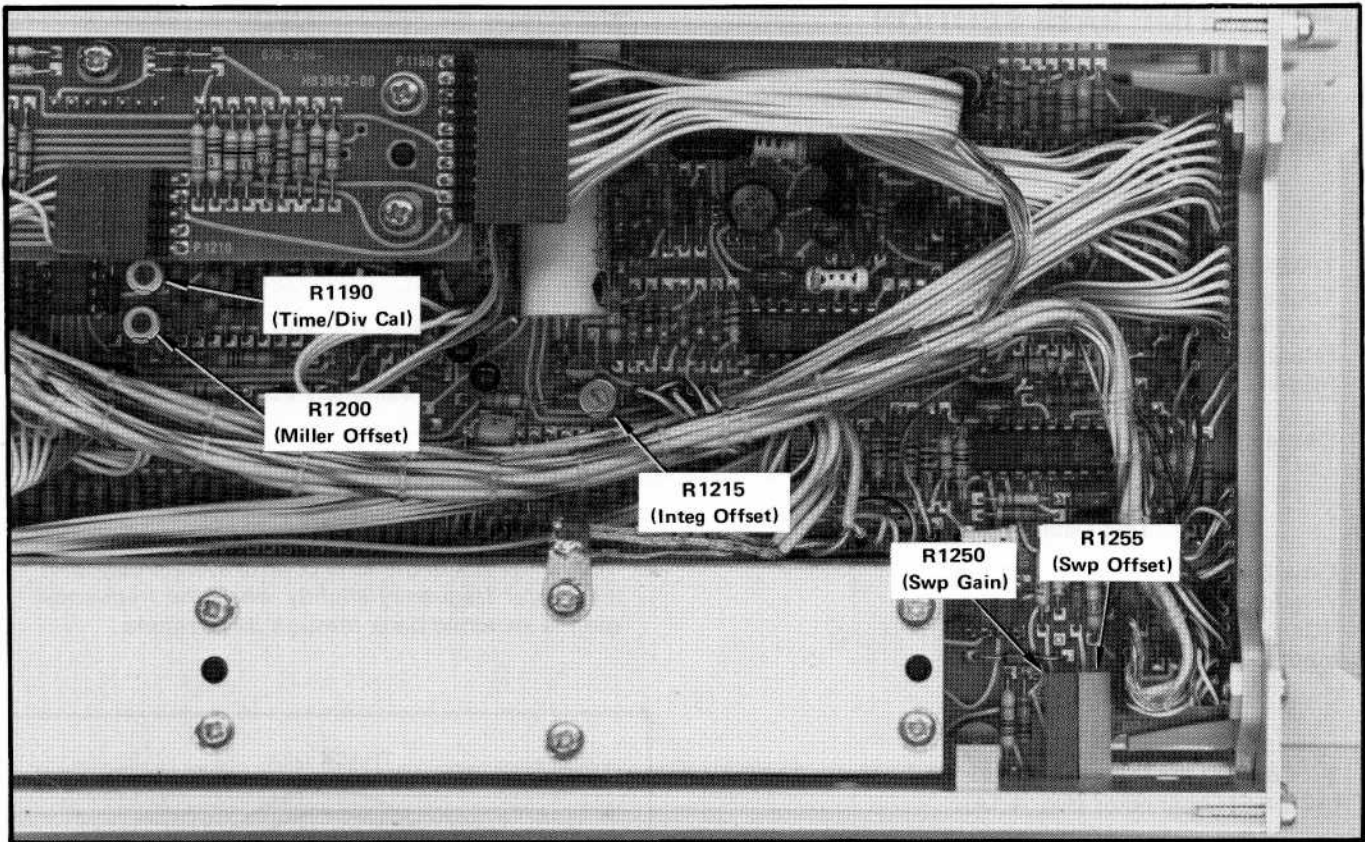

Fig. 4-2. Location of adjustments on the Sweep board.
c. Adjust the Swp Gain with R1250 (Fig. 4-2) on the sweep board, for a 20 volt (± 10 V) sweep ramp (Fig. 4-1B). Adjust R1255 (Fig. 4-2) to center the ramp about 0 volts.
j. Position the crt beam at the center line of the graticule with Integrator Offset Adjust R1215 (Fig. 4-2). Replace transistor Q1210.
s. Adjust the Time/Div Cal R1190 (Fig. 4-2) for 1 marker/division.
v. Adjust Miller Offset R1200 (Fig. 4-2) for 1 marker/division.